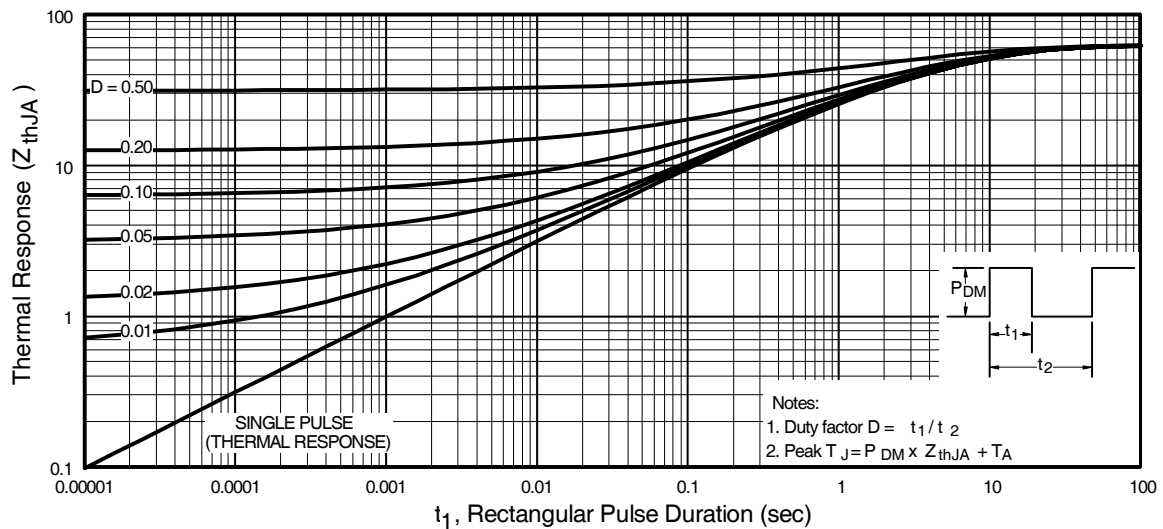

Fig 11. Maximum Effective Transient Thermal Impedance, Junction-to-Ambient
① Repetitive rating; pulse width limited by max. junction temperature. (See fig. 11)
② Pulse width $\leq 400\mu s$; duty cycle $\leq 2\%$.
③ Surface mounted on FR-4 board, $t \leq 5\text{sec}$.